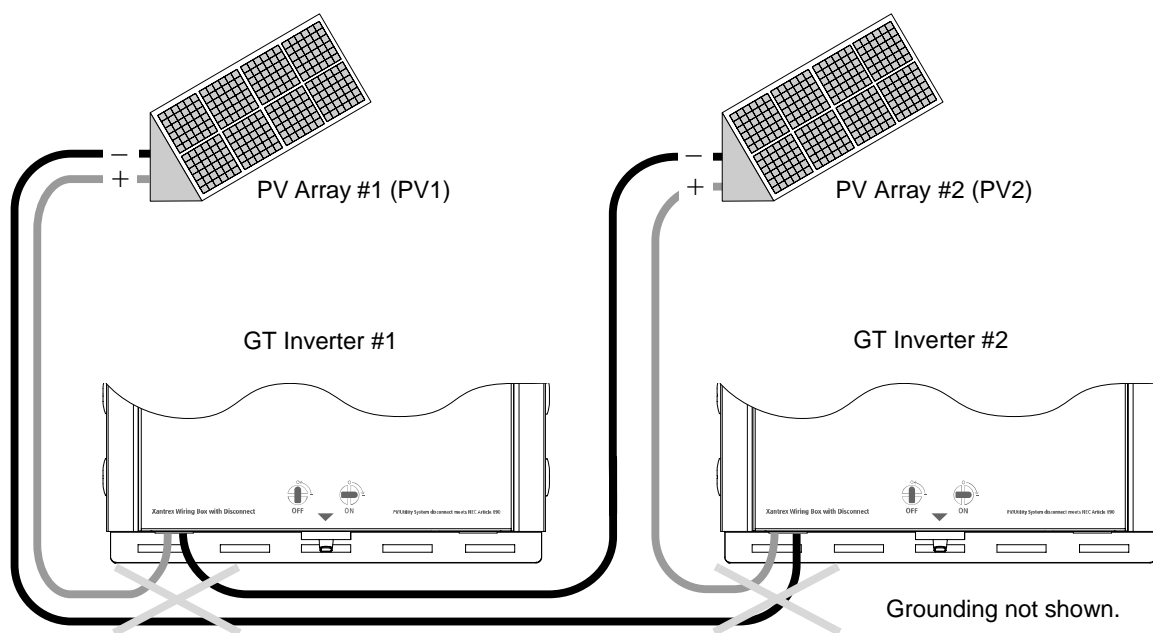

Figure 3-6 Improper Multiple Inverter Connections
**Do not** connect PV1 positive (+) and PV2 negative (–) to inverter 1 and PV2 positive (+) and PV1 negative (–) to inverter 2. See Figure 3-6.